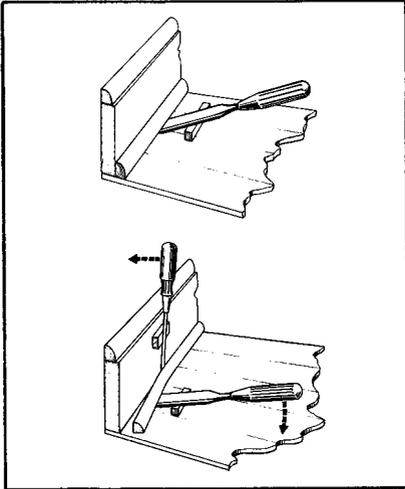
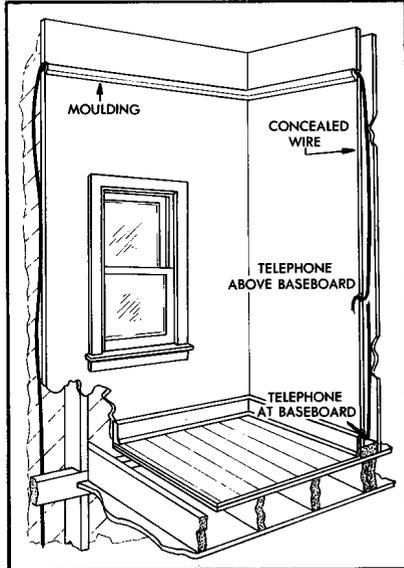

FIGURE 1. Procedure for Removing Molding
FIGURE 2. Locating on Inside Wall
- (1) Place a wood chisel under or in back of the molding and pry up or out gently.
- (2) Then place a screw driver between molding and baseboard. See Figure 1.
- (3) Pry carefully with chisel and screw driver to loosen nails which have been driven diagonally.
- (4) Move tools forward as the molding is loosened and keep tools as near nail locations as possible.
(5) Loosen molding only as far as necessary to provide room for boring.
(6) Withdraw nails from molding by pulling the head through to the underside with diagonal pliers.
(7) Removing nails this way leaves the paint and putty undisturbed on the face of the molding.
(8) When replacing the molding, remove all dirt and chips from behind the molding and press the molding back into position, starting at the unloosened end.
(9) Fasten molding with thin wire finishing nails.
e. In general, no obstructions will be found in fishing brick or balloon (no obstructions between studs) frame houses. See Figure 2.
(2) In locating the telephone connecting block, etc., on an inside wall, proceed as shown in Figure 2.